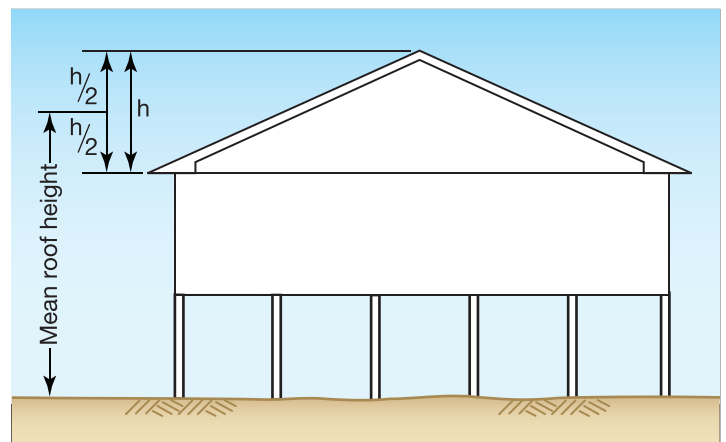

Figure 2: Illustration showing how to determine the MRH
- c. Mean roof height:** Determine the mean roof height (MRH) in accordance with the 6th Edition (2017) FBCR Section R202 definition: "The average of the roof eave height and the height to the highest point on the roof surface, except that eave height shall be used for a roof angle of less than or equal to 10 degrees." Refer to Figure 2 for clarification.